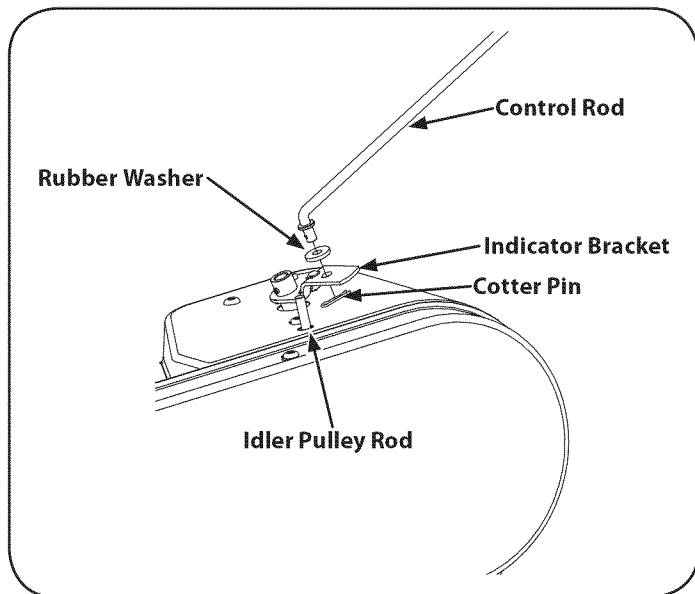

Figure 3
3. Insert the shorter, angled end of the control rod through the indicator bracket on the shift cover and secure it with the previously removed hairpin clip. See Figure 3.